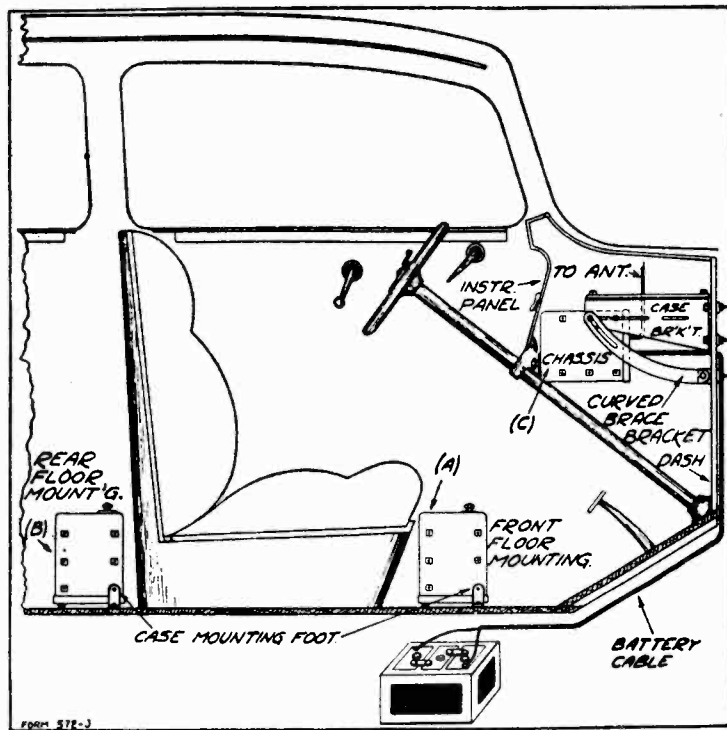

Fig. 1—Integral Mounting—Side View
By integral or all-in-one mounting of the chassis is meant operating the receiver by means of the controls on the chassis box (and not with a separate control unit). This method is the simplest, as no changes are required on the receiver. It can be installed in several ways, as explained below and as illustrated in Fig. 1. Still other methods of mounting and locations for the chassis will suggest themselves, depending on the space available and variations in the construction of different cars.
In Fig. 1(A) is shown how the chassis can be placed on the floor in front of the front seat. There are four rubber mounting feet on the bottom of the box, on which it stands. It may also be placed in back of the front seat (B) so as to be in the rear compartment of the car. In some cars, there is room enough between the two front seats for the chassis box to be placed. In coupes, the chassis may be placed on the shelf in back of the seat. Still other locations, as mentioned above, can be used, depending on the space available in different cars.
mounting. These mounting feet are shown in Fig. 1. One side of the foot, which is a small angle bracket, is secured to the end of the chassis box by means of one of the chassis mounting screws. The other side of the foot is screwed to the floor board or surface on which the chassis is resting, with a wood screw. The two feet are placed diagonally, that is on one end of the chassis box it is at the front, while on the other end it is at the rear.
In Fig. 1(C) is also shown how the chassis can be mounted on the dash by means of brackets, in such a way that the front portion of the box with the controls, is flush, or nearly so, with the instrument panel. This is a very desirable method of installation, as the receiver is rigidly in place, out of the way, and the controls are very accessible.
When mounted this way, two side case brackets (long type) are used, one on each end of the box, as shown in Fig. 1. Two mounting screws are generally used to secure each bracket to the end of the chassis box. Three may be used in cases where the distance between the instrument panel and dash is small. Six embossings with inset nuts are provided on each end of the chassis box. Any two of these or
three, as mentioned above, may be used for the bracket screws, which, together with the slots in the brackets, provides great flexibility in mounting. In addition to the side case brackets, two curved brace brackets and one cross strap brace as shown in Figs. 1 and 2 are used.
it may have to be moved to either side. In some instances, it can be mounted at the center of the instrument panel, but may have to be moved down and nearer to the dash than as shown in Fig. 1. Consideration should be given to the possibility of
These can be put on in a number of different ways. The front or back case bracket screw can be used and the brace bracket itself can be mounted upward or downward. As a general rule it is mounted on the bracket screw farthest away from the dash and downward as shown in Fig. 1. The small angle brackets supplied with the receiver are secured at the base of the curved brace brackets as shown in Figs. 1 and 2, by means of the No. 10-32 $\frac{3}{8}$ " Round Head Screw, nut and washer supplied. After the position of the brace brackets is decided on, put them in place and start the holes for them with a center punch. These brackets are bolted to the dash in the same manner as explained above for the case brackets.